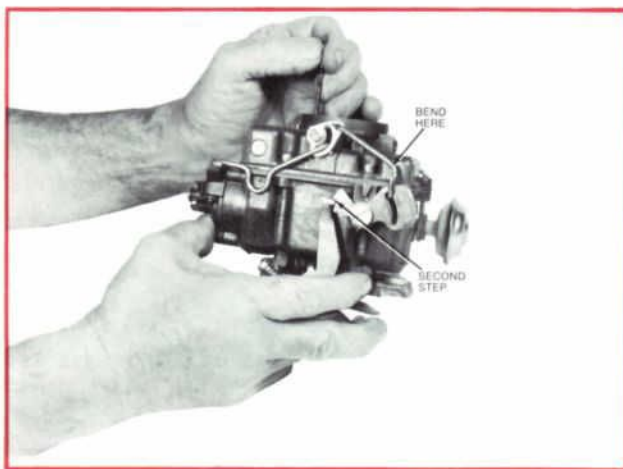

Figure 27—Fast Idle Cam Position Adjustment
Insert specified drill between choke valve and wall of air horn (Figure 27). A slight drag should be felt as the drill shank is removed. If no drag, or too much drag occurs, an adjustment is necessary. Adjust by bending fast idle connector rod with suitable bending tool until correct choke valve opening has been obtained.
- (1) With engine off and transmission in PARK or NEUTRAL, open throttle slightly.
- (2) Close choke valve until fast idle cam screw can be positioned on second highest step of fast idle cam (Figure 27).
- (3) Start the engine and determine stabilized speed. Insert proper size screwdriver blade in the slot in the throttle lever tang. Twist the screwdriver clockwise or counterclockwise to achieve correct idle speed.